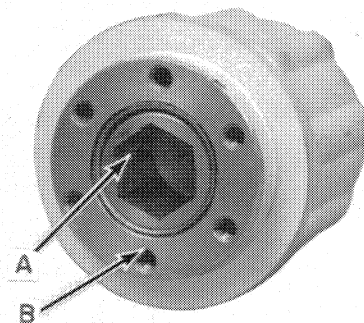

Figure 2-19
5. The bronze bushing, B, Figure 2-19, can be removed using a pilot bearing puller and slide hammer.
3. Inspect bushing, B, Figure 2-19, to be sure it is fitted tightly in the housing and is not worn excessively. Maximum ID is 1.630" (41.4 mm).
1. Install the bronze bushing, B, Figure 2-19, into the clutch housing if it was removed. Use a suitable bushing driver.
3. Install the hexagonal inner bore bushing, A, Figure 2-19.